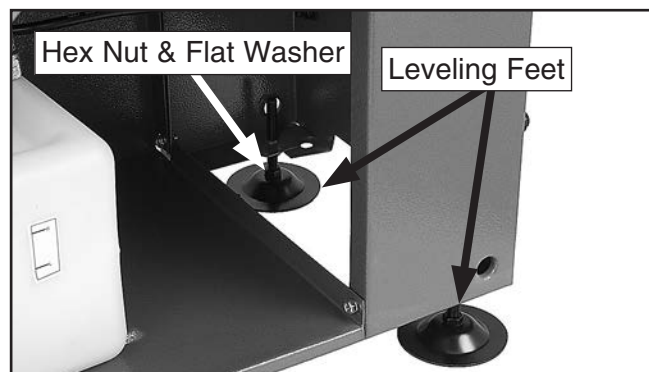

Figure 12. Leveling feet attached.
3. Attach threaded portion of leveling feet with flat washer and hex nut into the base of cabinet, as shown in **Figure 12**.